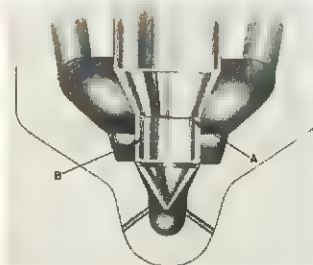

FIG. 81-1
The first step is a thorough understanding by the operator of the objective to be obtained in this nozzle reconditioning procedure. For that purpose, study carefully Fig. 81-1, which shows a sectional view of a nozzle body with its valve on the seat.
The procedure to achieve what Fig. 81-1 illustrates is as follows:
CAUTION: Do not lap body seat any longer than absolutely necessary. The seat should be inspected frequently with the light and magnifying glass. If no pits or grooves are noted, the body is considered ready for the next operation - - that of lapping it with its valve to obtain condition shown in Fig. 81-1.
9. Since the nozzle body and its valve are now considered to be in servicable condition, they can be lapped together to obtain the line contact at the seating point similar to that in a new nozzle, Fig. 81-1.
line contact. The valve is placed in the lapping machine and a very small amount of grinding compound applied to the end of the needle valve at point "B", Fig. 81-1. Make sure that both the seat in the nozzle and the seat on the valve are dry.
Carefully slide the body of the nozzle over the valve and rotate the body a few times to distribute the compound using only very light pressure against the nozzle valve. Start the machine and work the two surfaces together by slowly rotating the body to the right using intermittent pressure against the valve. This pressure should be lightly applied at first and may be slowly increased as lapping continues. The nozzle body should be removed from the valve frequently and an examination made of the valve seat. The compound should not be allowed to spread above the line of contact at the top edge of the valve seat, point "A", Fig. 81-1. If this occurs, the relative angularity between the valve and nozzle will be destroyed and the nozzle will not operate properly. When the lapping compound shows danger of passing beyond this point, it should be removed from both the valve and nozzle seats and fresh compound applied. It is imperative that during this phase of the lapping operation, both seats be dry and clean before fresh compound is applied.
The above process should be repeated until a thin bright line of contact is obtained at the very upper edge of the valve seat as shown by the shaded area in Fig. 81-1. The ideal condition of the valve shows a blend from this shiny line of contact to a dull grey at the bottom edge of the seat. If the lapping compound is observed to spread over the whole valve seat rapidly during the lapping process, it may be due to either the compound being too damp or the difference in angle between the nozzle and valve being too
When the condition of the valve as shown in Fig. 81-1 has been obtained both the nozzle and valve seats should be cleaned, then mutton tallow or rouge dampened with fuel oil applied to the valve seat. The nozzle may then be lapped a short time with the rouge in place of compound. This operation is done to remove any particles of compound that may remain imbedded in the metal and which might cause continued lapping action during operation in the engine.